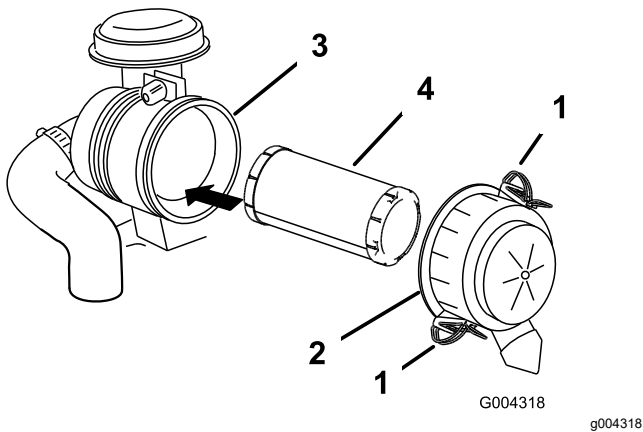

Figure 38
3. Release the latches on the air cleaner and pull the air-cleaner cover off the air-cleaner body (Figure 38).
5. Gently slide the filter out of the air-cleaner body (Figure 38).